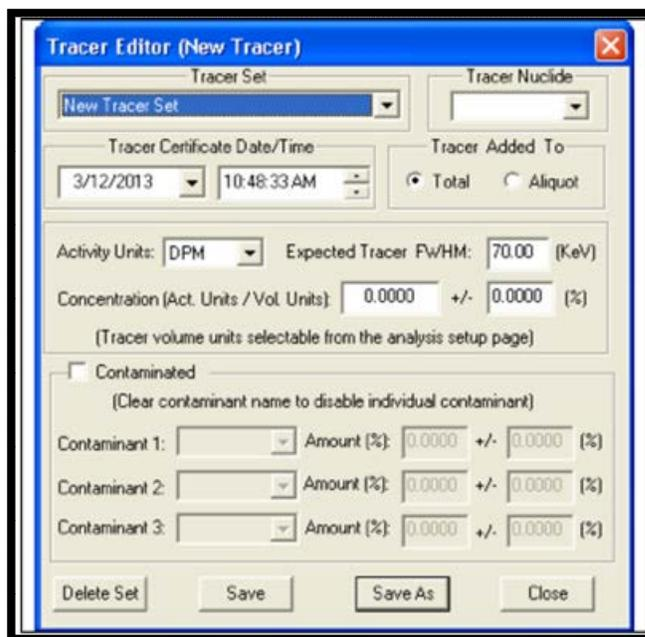

Figure 61. Choose a Standard
- 1) Open the Tracer Editor (Figure 61) by clicking **Edit/Tracers...** or the **Tracers** button on the toolbar.